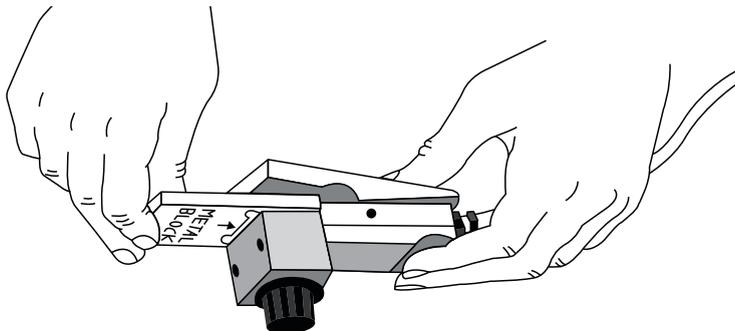

Figure 51 Sensor head on calibration plate
18. Slide the calibration plate into the sensor head, orienting the side of the plate marked Metal Block toward the aluminum block side of the sensor head (Figure 51). A seating click will occur when the plate is placed correctly. The lip on the calibration plate should be fully fitted into the top of measurement hole.